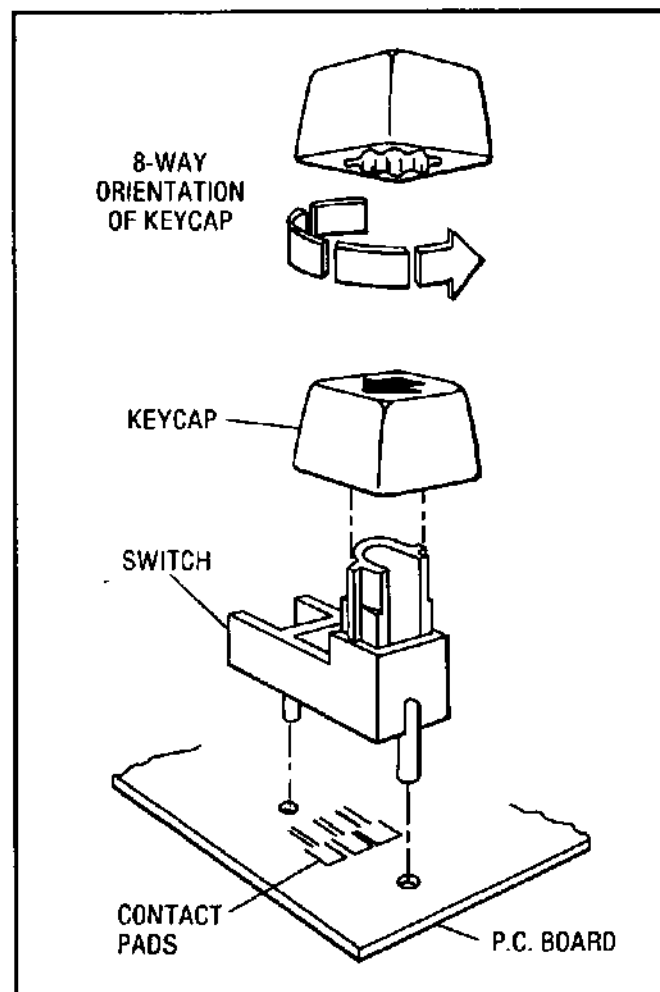

Figure 8-1. Front Panel Pushbutton Switch Assembly
*Be sure the key cap is aligned properly before snapping into place. Note that the key cap has 8 possible positions (see Figure 8-1).*